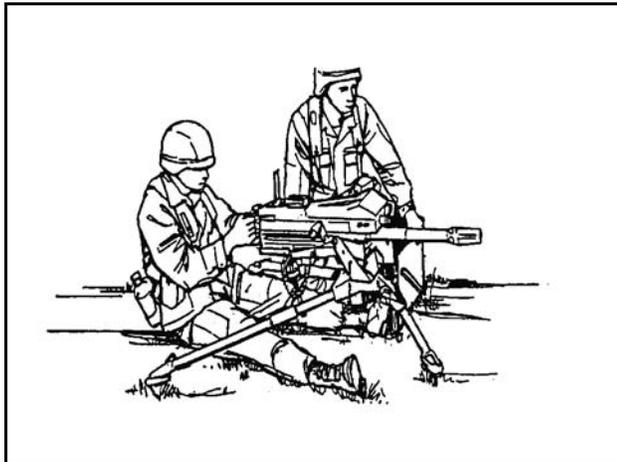

Figure 071-030-0004-1. Seated firing position, legs extended
- (1) Legs extended. Extend your legs under the tripod (figure 071-030-0004-1).
- (2) Legs crossed. Cross your legs and place your elbows on the inside of your thighs for support when firing the weapon (figure 071-030-0004-2).